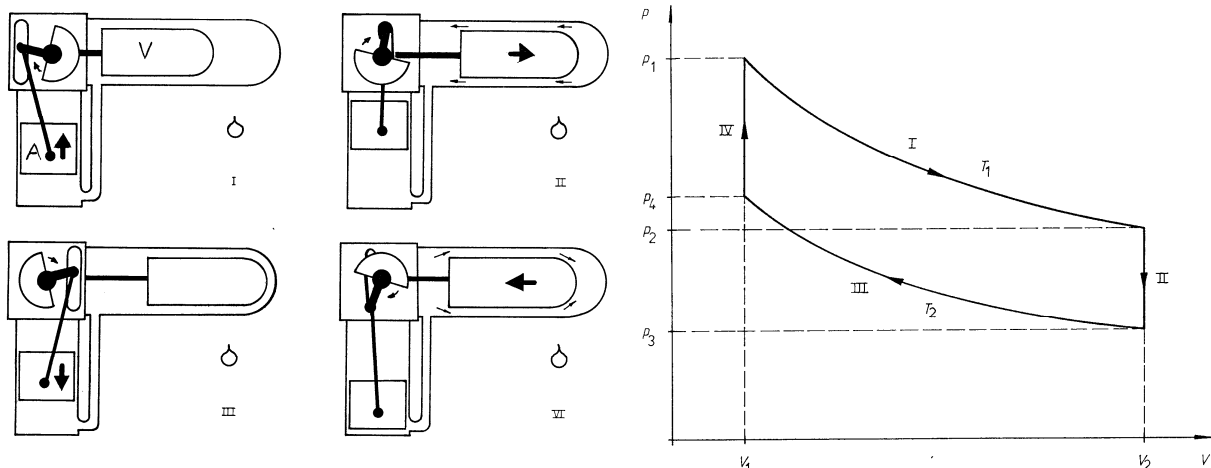

Fig. 2: Operating principle of the Stirling motor
A Stirling motor (hot-air motor) converts heat energy into mechanical energy. When driven mechanically it acts as a heat pump or refrigerating machine and therefore impressively demonstrates the reversibility of thermodynamic processes. The operating principle of the Stirling motor is explained in Fig. 2. The main and displacement pistons are mounted in a 90° V- type configuration. The main piston (A) is made of metal and fits exactly in the glass tube. The glass displacement piston (V) also provides the regenerator function which is important for the operation of the Stirling motor. It cools the hot gas which flows past it, stores its energy and passes the energy on to the returning cold gas.